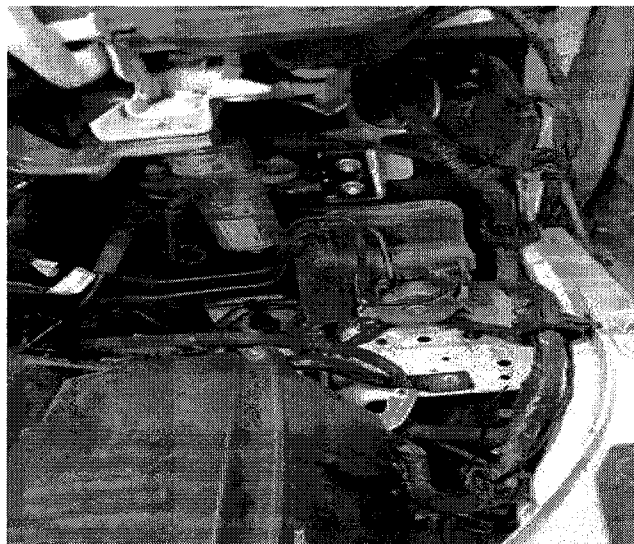

Fig. 12 Overlay Harness Underhood Retention
- 15. Install electrical tape along the overlay to secure it in place and place a new piece of tape on both sides of the grommet openings (See Figure 12)